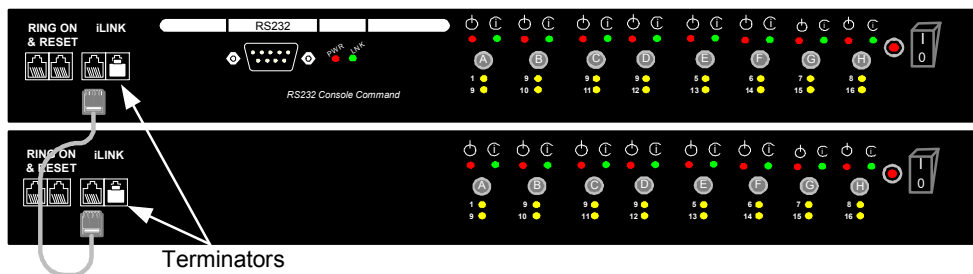

Figure 12 Connecting the iLink cable
3. Plug a Terminator into one of the SRPS Manager's iLINK ports and one into one of the Slave's iLINK ports. See Figure 12.
4. Connect the iLink cable to the iLINK ports of the SRPS Manager and Slave unit. See Figure 12.